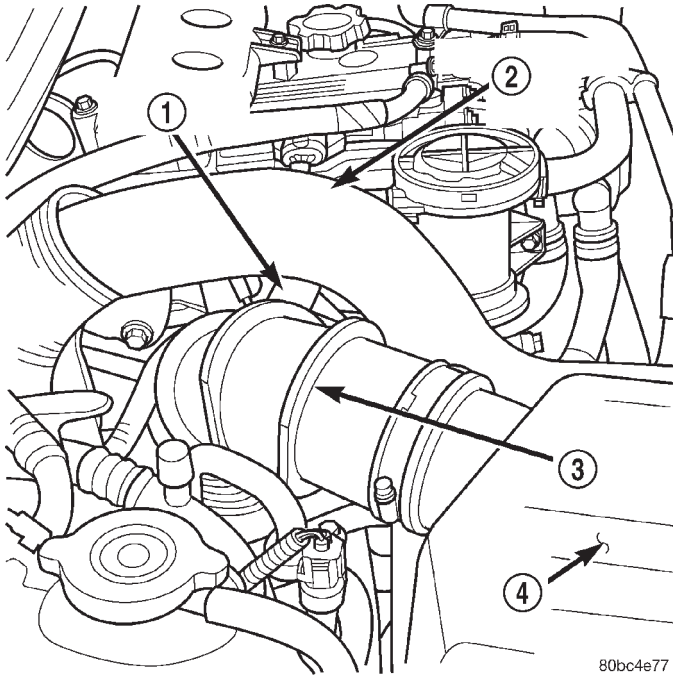
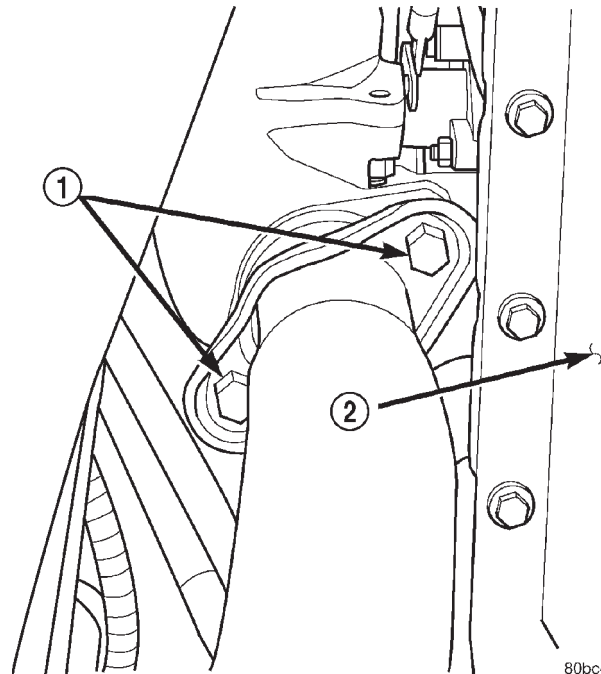

Fig. 44 Air Intake Hoses
Fig. 45 Exhaust System Inlet Pipe Retaining Bolts
(21) Install the fresh air inlet tube assembly on the turbocharger. Clip the air filter cover in position and connect the breather hose (Fig. 44).
(22) Install the intercooler inlet hose on the vehicle (Fig. 44).
(23) Raise the vehicle on the hoist.
(24) Install the turbocharger oil return hose on the turbocharger.
(25) Install the exhaust system inlet pipe on the turbocharger (Fig. 45). Torque the bolts to 22 N·m (194 in. lbs.).
(26) Lower the vehicle on the hoist.
(27) Fill the cooling system. Refer to Group 7, Cooling System for procedure.
(28) Check the transmission fluid level and top off if necessary.
(29) Connect the negative battery cable.
(30) Start the engine and check for leaks.